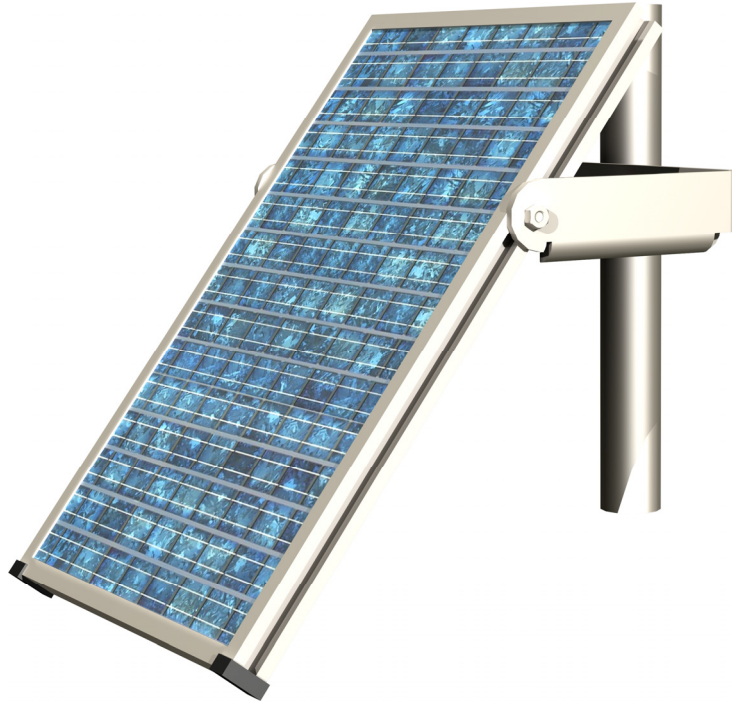

FIGURE 3.1-6. SP10 solar panel
1. Mount the SP10 solar panel to the mast, facing south (northern hemisphere) as shown in Figure 3.1-6. Position the SP10 at the top of the
1 1/4 inch diameter section of the mast. Install the U-bolt, muffler clamp, and nuts as shown in Figure 3.1-6.